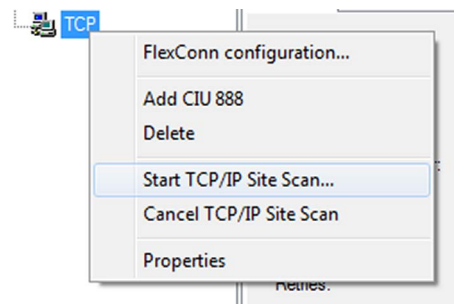

FIGURE 2-11
- a) In the *Site Explorer* window, right-click the device name in the site tree, i.e. TCP. Next, click **Start TCP/IP Site Scan...** in the pop-up menu (see FIGURE 2-11).